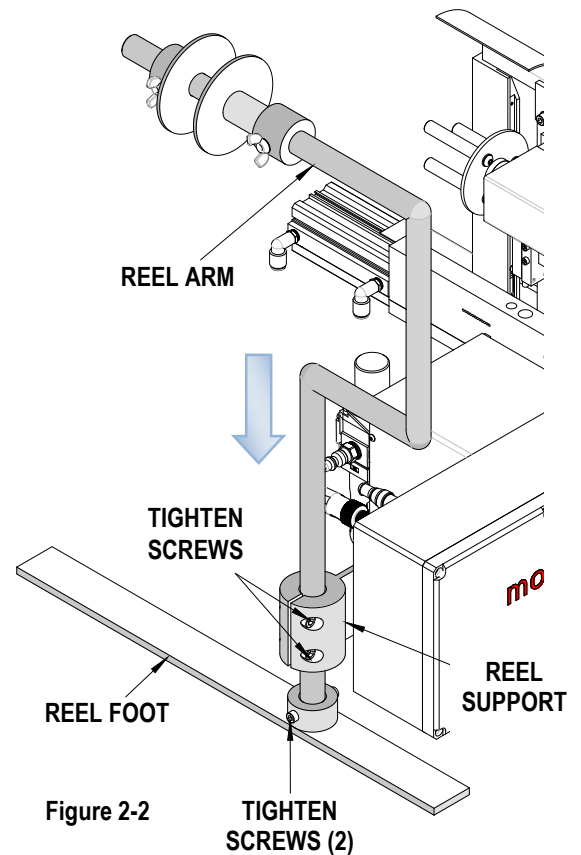

Figure 2-2
2. Mount the Reel Support to the left side of the PB14 using (2) M6 x 20mm long button head cap screws.
4. Place the Reel Arm through the hole in the Reel Support and into the hole in the Reel Foot. Tighten the (2) M6 socket head cap screws to clamp the Reel Arm in place. See Figure 2-2.
5. Mount the Take-Up Unit Assembly to the left side magazine rail using (2) M5 x 16mm long socket head cap screws.
6. Mount the In-Feed Guide Assembly to the top of left magazine rail using (2) M5 x 10mm long socket head cap screws and m5 washers.
9. Mount the Infeed Guide Assembly to the left magazine rail using (2) M5 x 10mm long socket head cap screws.